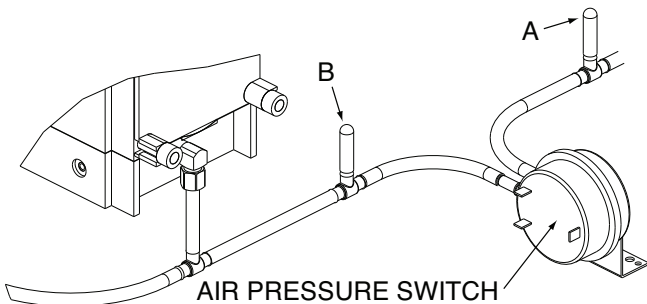

Fig. 53: Air Pressure Measurement Locations
1. Check the net blower suction using a 6-0-6 U-tube manometer by connecting one end to the blower suction pressure tee (attached to the negative side of the air pressure switch, point "A" in Fig. 53) and the other end to the tracking pressure tee (attached to the positive side of the air pressure switch, point "B" in Fig. 53). Read the differential pressure with the heater firing at 100% input and compare to Table U.
2. Check the tracking pressure by removing the end of the U-tube manometer from the blower suction pressure tee (point "A" in Fig. 53). Replace the cap on the blower suction tee and check the tracking pressure (at point "B" in Fig. 53) with the heater firing at 100% input. The tracking pressure provides feedback to the gas regulator to compensate for various air ducting arrangements and changes in the pressure drop across the combustion air filter. Initial readings with a clean air filter installed must be recorded on the "Start-up Checklist" located at the back of this manual. When the tracking pressure is more negative than -0.6 in. WC for 1005 and 1505 models or -0.8 in. WC on 2005 models and there are no obstructions to the air intake, replace the combustion air filter. If the air intake is obstructed, shut the unit off, clear the obstruction, re-start and check the tracking pressure as previously noted.